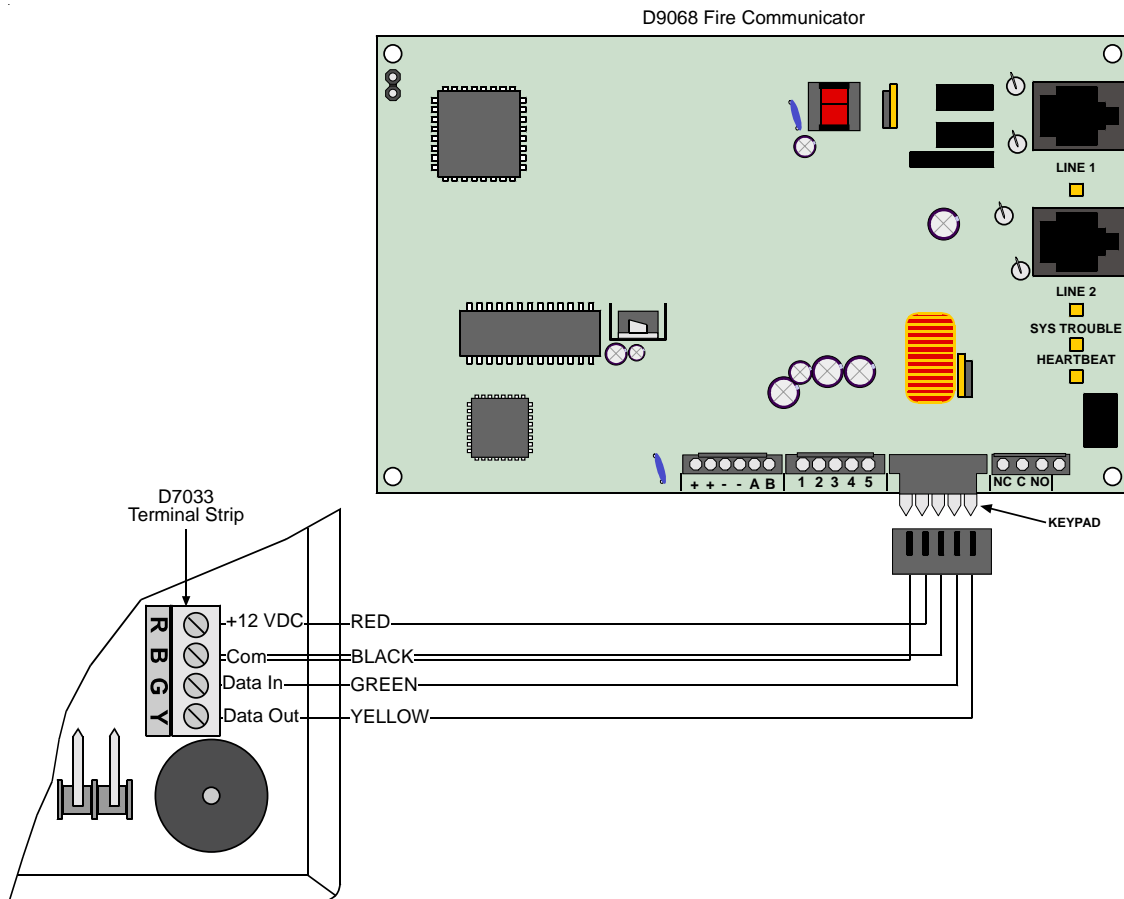

Figure 15: Connecting a Keypad to the D9068
A D7033 LCD Remote Keypad can be used to operate the D9068 Communicator. Remove the cover from the D9068 case and plug the molex connector from the D7033 onto the connector pins on the D9068 board as shown in Figure 15.
- 2) Use the wire connector supplied with the D9068 to connect the D7033 to the D9068. See Figure 15.